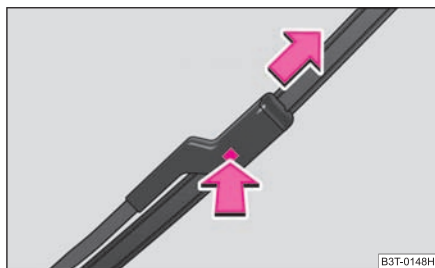

Fig. 59 Wiper blade for the windscreen wiper
- Press the locking button, in order to unlock the wiper blade and pull off in the direction of arrow ⇒ fig. 59.